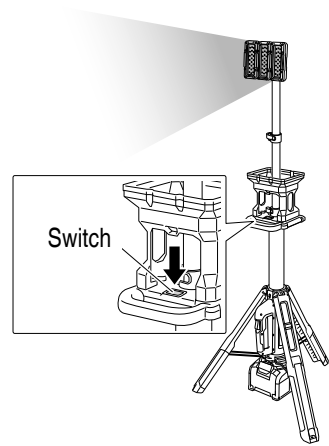

Fig. 13
- Turning the light on (Fig. 13)